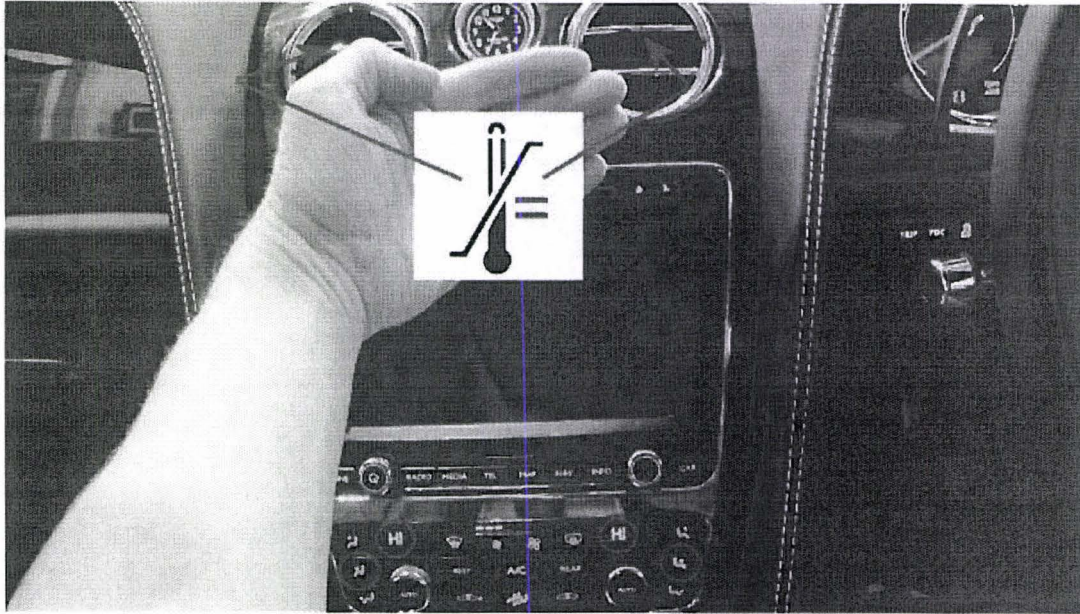

Figure 7
12. Carry out 15 minute road test. During the test, the climate control should be set to maximum heat (Hi) and 3 segments on the fan speed for both driver and front passenger. This will ensure the engine cooling system, specifically the heater circuit, is de-gassed. On completion of the road test, set both driver and front passenger air distribution controls to facia. At idle, confirm the output temperature is balance and consistent between left and right facia vents (see Figure 7)